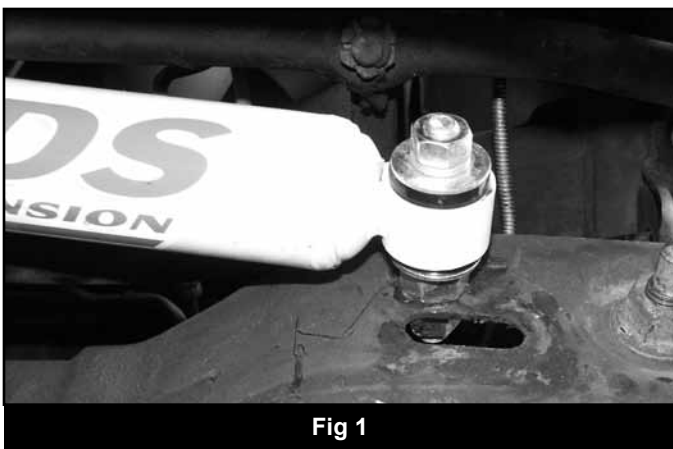
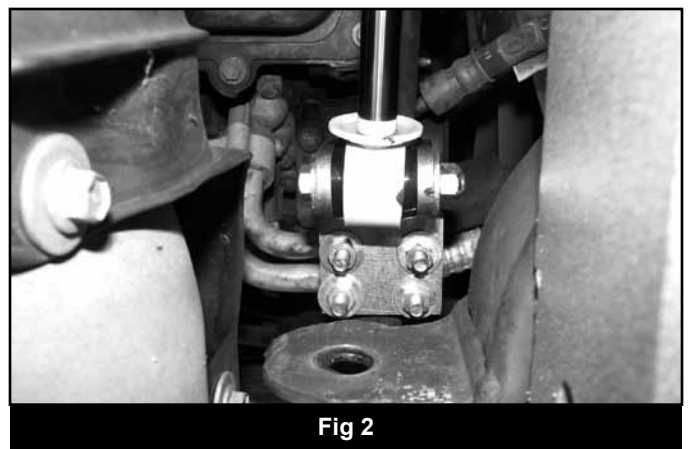

Fig 1
Fig 2
4. Loosely install the drag link bracket on the drag link with 5/16"x1-1/4"x2" u-bolts, nuts, and washers. Install the bracket so the mounting tabs are in toward the center of the vehicle and pointing toward the ground on lifted applications. (Fig. 1) On stock height vehicles the bracket will need to be rotated slightly to clear the differential while the vehicle is turning. (Fig 2)